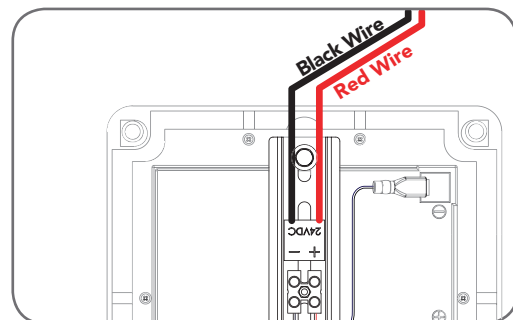

Fig 16
3. Connect the **red wire** to the Battery Box's "+" terminal, and the **black wire** to the "-" terminal (Fig. 16).